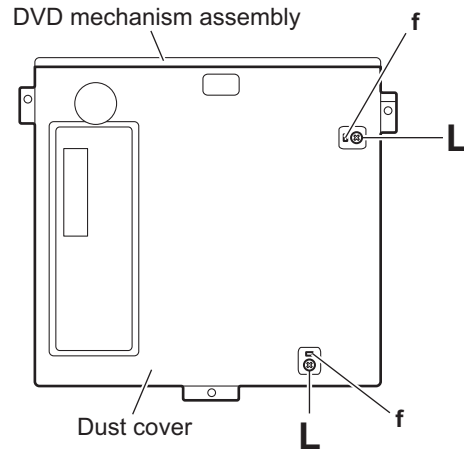

Fig.9
### 3.1.8 Removing the main sub board (See Figs.9 to 11)
- From the top side of the DVD mechanism assembly, remove the two screws **L** attaching the dust cover. (See Fig.9.)
- Remove the dust cover from the DVD mechanism assembly. (See Fig.9.)
When attaching the dust cover, align the joints **f** in the holes of the dust cover before attaching the screws **L**. (See Fig.9.)